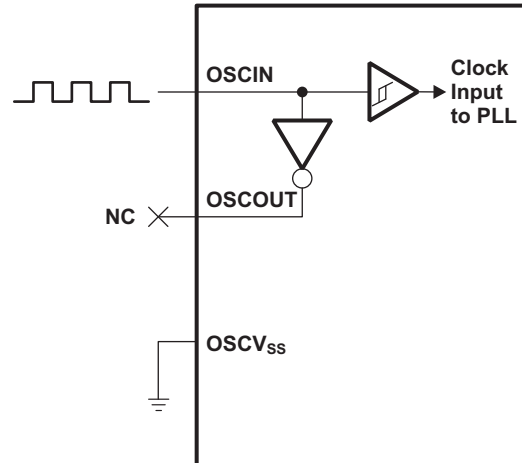

Figure 6-7. External 1.2V Clock Source
The device includes two choices to provide an external clock input, which is fed to the on-chip PLL to generate high-frequency system clocks. These options are illustrated in Figure 6-6 and Figure 6-7. For input clock frequencies between 12 and 20 MHz, a crystal with 80 ohm max ESR is recommended. For input clock frequencies between 20 and 30 MHz, a crystal with 60 ohm max ESR is recommended. Typical load capacitance values are 10-20 pF, where the load capacitance is the series combination of C1 and C2.
- Figure 6-7 illustrates the option that uses an external 1.2V clock input.